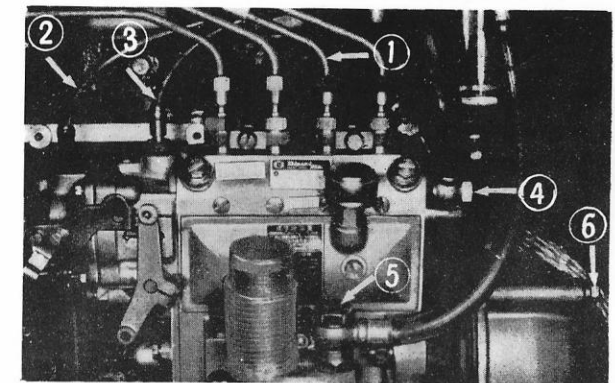

Fig. 4-45
- (1) Remove the fuel injection pipe (1) together with the clip.
- (2) Remove the governor vinyl pipes (2) and (3).
- (3) Remove the injection pump joint bolts (4) and (5).
- (4) Remove the six setting bolts (6) and then, withdraw the injection pump assembly rearward. (See Fig. 4-45)